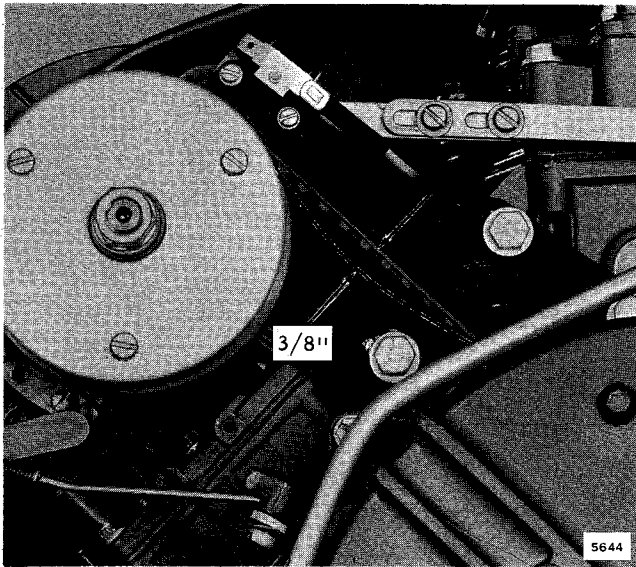

Figure 4-22. Correct Belt Tension
d. Adjust magneto bearing bracket for proper amount of slack in belt. Belt tension is correct when belt can be deflected $5/16$ " to $3/8$ " under 1 lb. pressure applied near center of belt. See Figure 4-22.